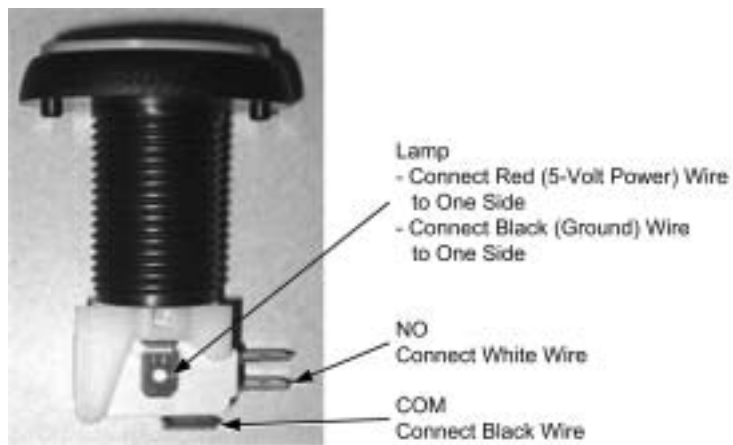

Figure 15. Lighted Button Connections
8. At the seat assembly, remove the three (3) Torx bolts from the top plate of the shifter and lift the shifter assembly out of its housing.
11. Refer to Figure 15 and connect the E-Brake button to the four (4) spade connectors on harness part # 115-0061-01 as described below. Note that the spade connectors for the lamp are a bit wider than those for the micro switch.
5. Locate harness part # 115-0072-01 from the kit, and connect the spade connectors to the NOS button. Note that the spade connectors for the lamp are a bit wider than those for the micro switch. Connect the White & Black micro switch wire to the NO connector and the Black wire to the COM connector. The lamp connectors are interchangeable. (See Figure 15 on page 20.)